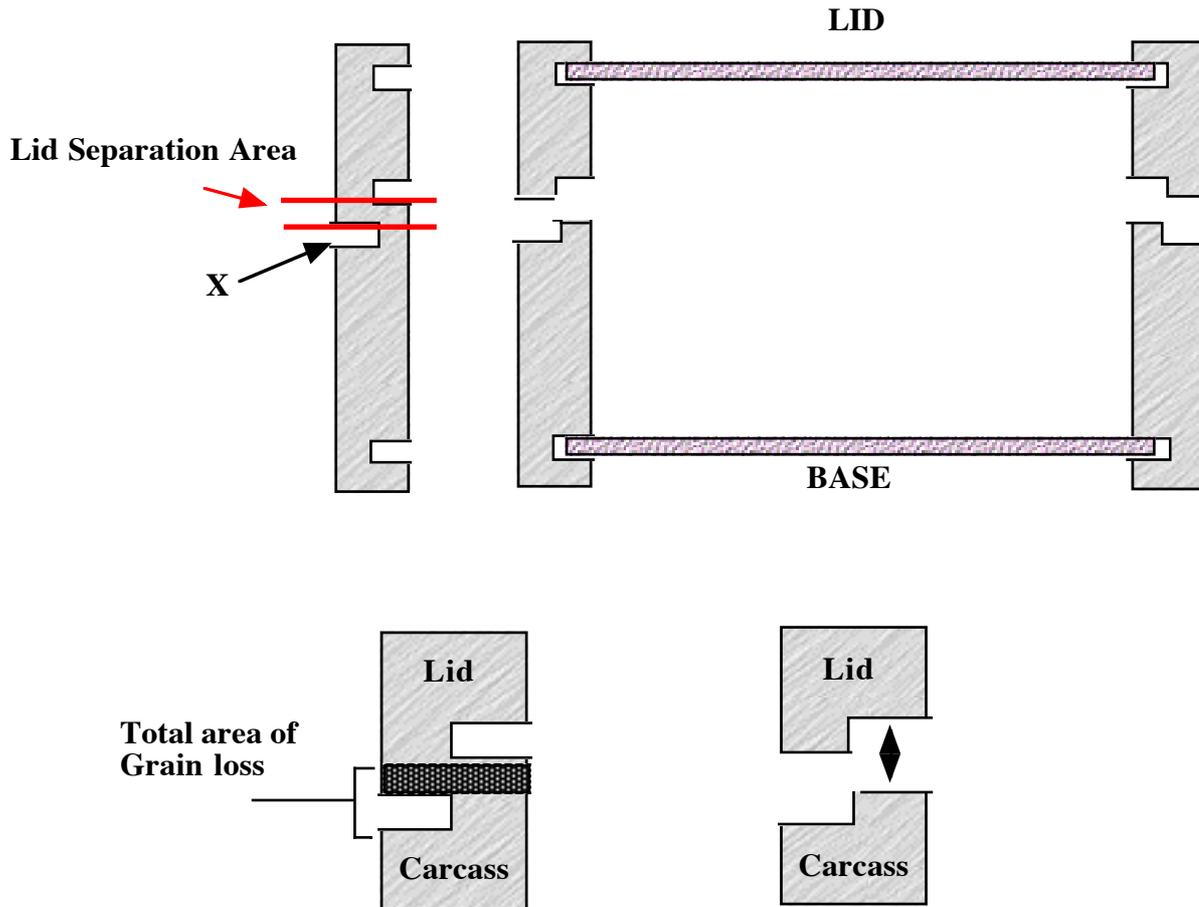

Figure 13
The easiest way to describe the lid separation is to show it in a diagram with the lid and base in place as we have shown in **Figure 13**.
- The cut made at **X** in **Figure 13** may be made a little deeper than the internal dadoes. (Maybe one playing card deeper). This helps the lid fit over the carcass rebate easily.